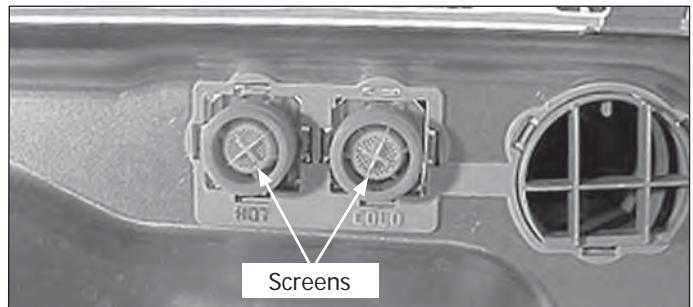

Figure 4-56.
2. Each screen has a reinforced bar across the face. Using a pliers, grab one of the legs of the bar and pull the screen out. (See Figure 4-56)